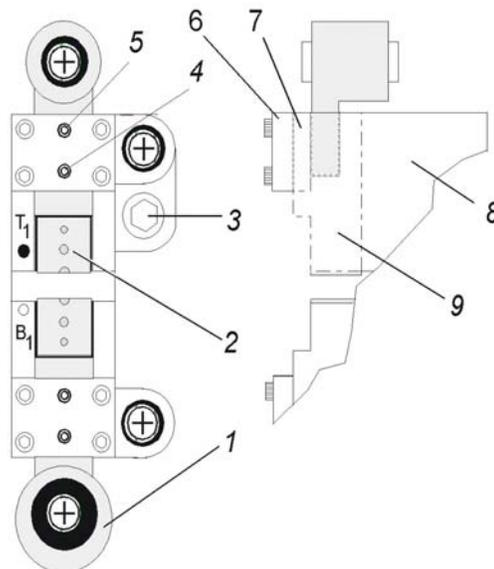

Figure 22 Die Block Assembly Slide Clearance
- 1 Remove die block assembly. Station 1 die block assembly is illustrated in Figure 22.
- b. Raise die block approximately 1" (25.40 mm) from machine base plate using machine's die block adjusting bolt (Figure 22, Item 3).
- a. Remove and discard the set screws from the cover plate (Figure 22, Item 6).
- a. Loosen the cover plate's inner set screw (Figure 22, Item 4) approximately a quarter turn.